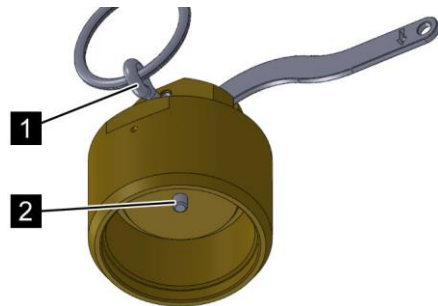

Fig. 95: Release and lock pin
2. Carefully press the release pin (Fig. 95/2) inward as far as possible.
3. Insert the lock pin (Fig. 95/1) into the manual release device.